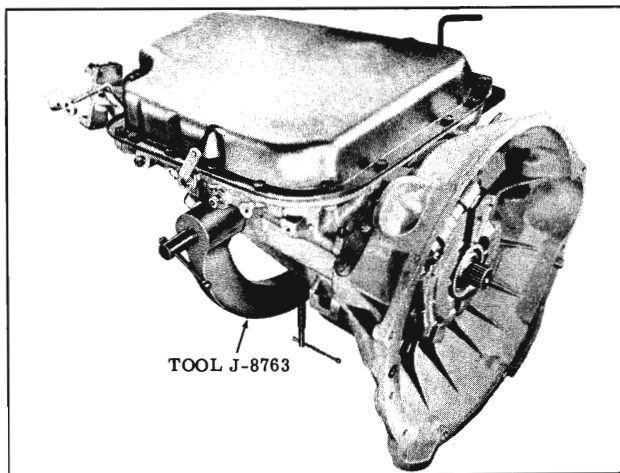

Fig. 3-221 Transmission Holding Fixture
2. Install transmission holding fixture as shown in Fig. 3-221.